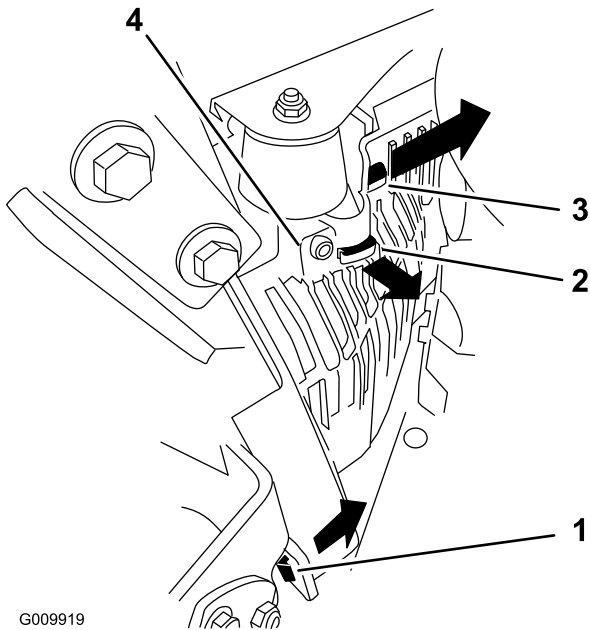

Figure 54
3. Remove the left hand hydraulic-unit shroud in the order listed in Figure 54.
5. Install the left hydraulic-unit shroud (Figure 54).